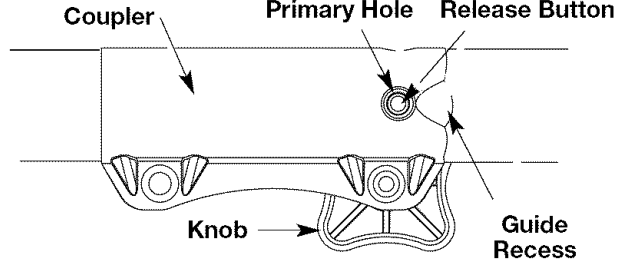

Fig. 15
3. While firmly holding the attachment, push it straight into the coupler until the release button (Fig. 15) snaps into the primary hole (Fig. 15). The primary hole is on the opposite side of the coupler from the knob (Fig. 15). Align the release button with the Guide Recess (Fig. 15) to help installation.
CAUTION: Lock the release button in the primary hole (Fig. 15) and securely tighten the knob before operating this unit.
3. Press and hold the release button (Fig. 15).
CAUTION: Before operating this unit, be sure that the release button is fully snapped into the primary hole (Fig. 15), and that the knob (Fig. 16) is securely tightened.